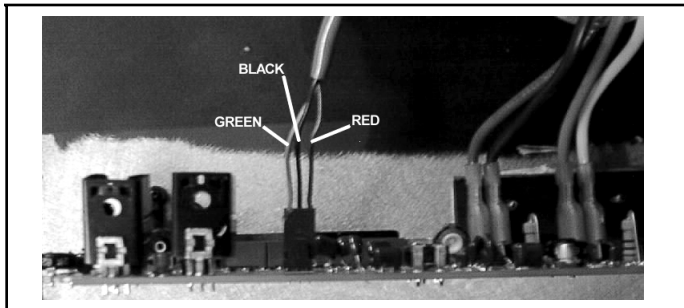

FIG. 6
2. Disconnect PCB mounted LED harness (FIG. 6)